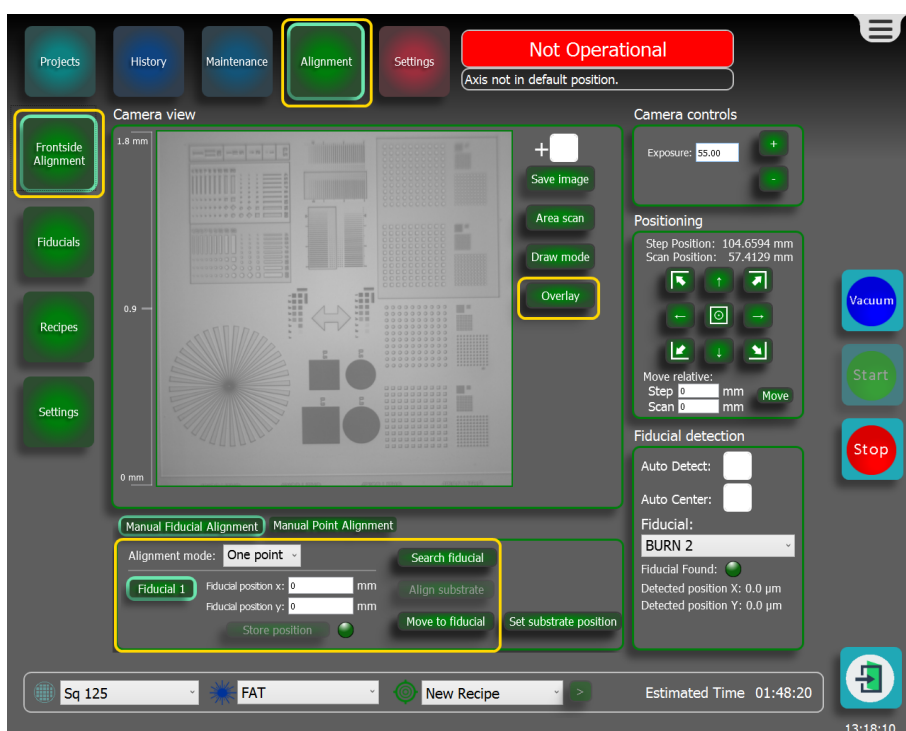

Figure 3-106 Going towards marker position
3. Press **Alignment** in the top bar to open the Alignment window, (see Figure 3-106).
- 5.1. At **Fiducial position x** and **Fiducial position y** (see Figure 3-106), fill in the known position that the camera must go to.